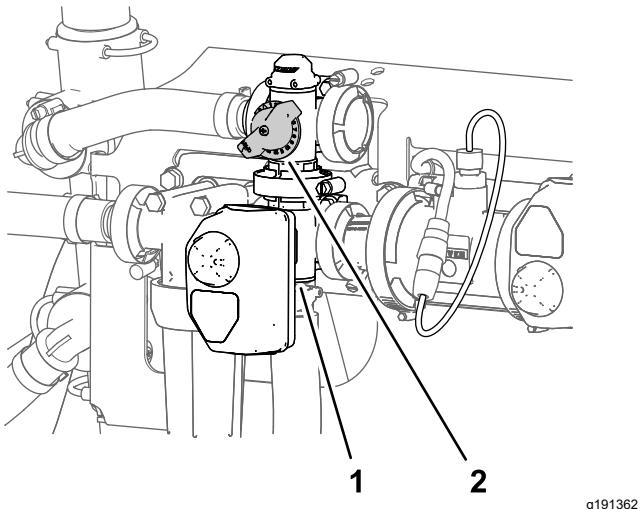

Figure 35
11. Adjust the agitation-bypass valve (Figure 35) on the backside of the agitation valve until the sprayer system pressure indicated on the gauge indicates 689 kPa (100 psi).